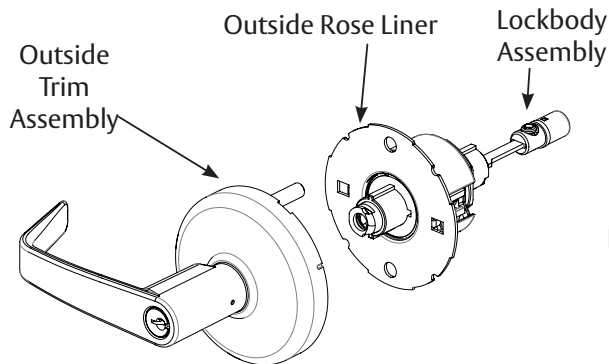

Figure 5
1. Remove outside trim assembly from the lockbody assembly. The lever, rose, and spring housing will remove as one piece from the lockbody. See Figure 5.